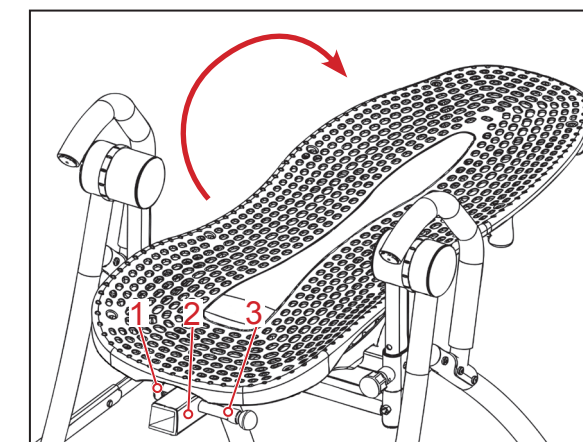

Figure 15
- Rotate the Table Bed into its use position (Figure 15).